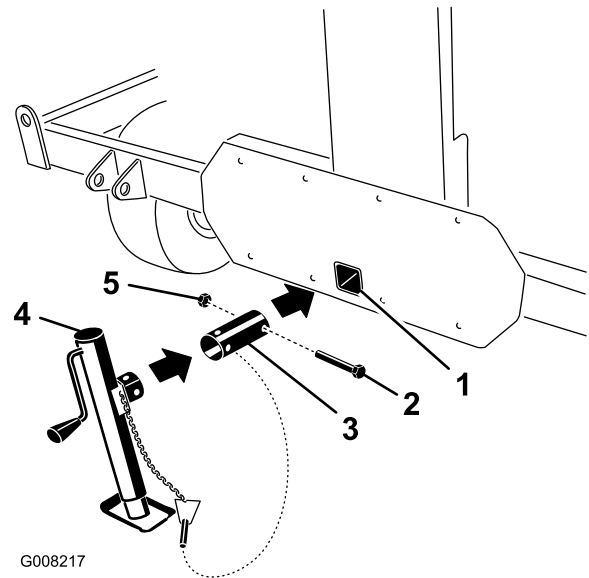
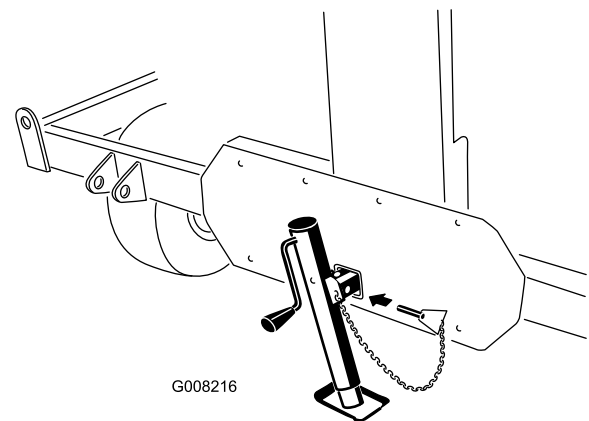

Figure 8
Figure 9
3. Insert the jack-stand tube into the tow bar mounting hole (Figure 8).
5. Using the bolt and nut previously removed, secure the tube to the core processor (Figure 8).
6. Slide the jack stand onto the jack tube, align the mounting holes, and secure with the lynch pin (Figure 8 and Figure 9).